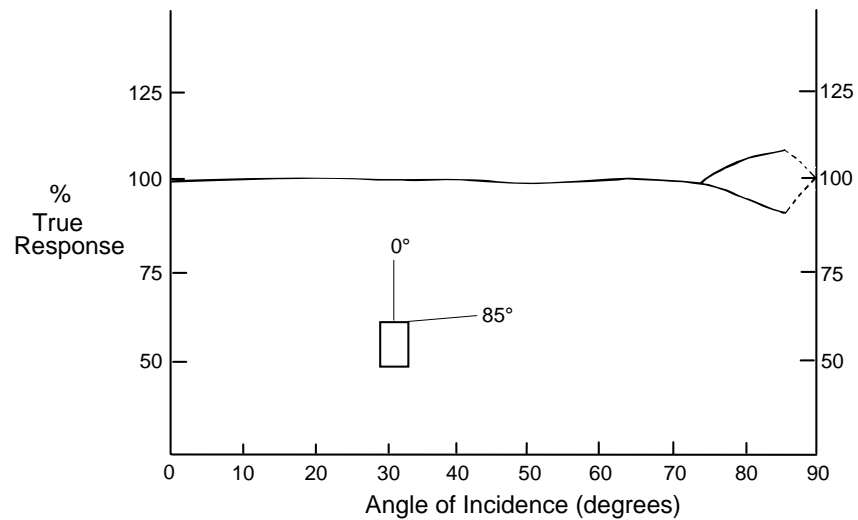

Figure 2 Typical Cosine Response Error for SKP215
- Cosine corrected head (typical errors zero 0-70°,  $< 10\%$  85-90°; see Figure 2)